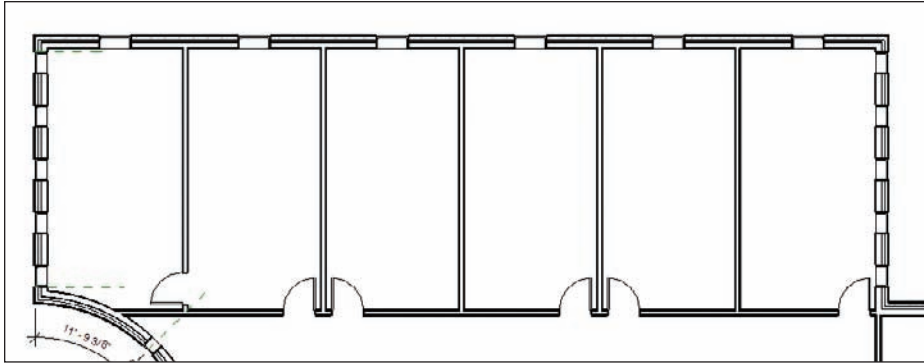

FIGURE 5.36 Adding doors and windows to the floor plan
11. Add doors and windows to the plan, as shown in Figure 5.36. They can be any type of door or window you choose—just try to keep them similar to the ones in Figure 5.36. Also, placement does not matter. We will adjust this in the next procedure.